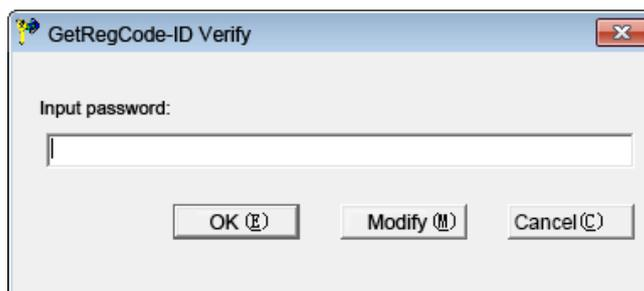
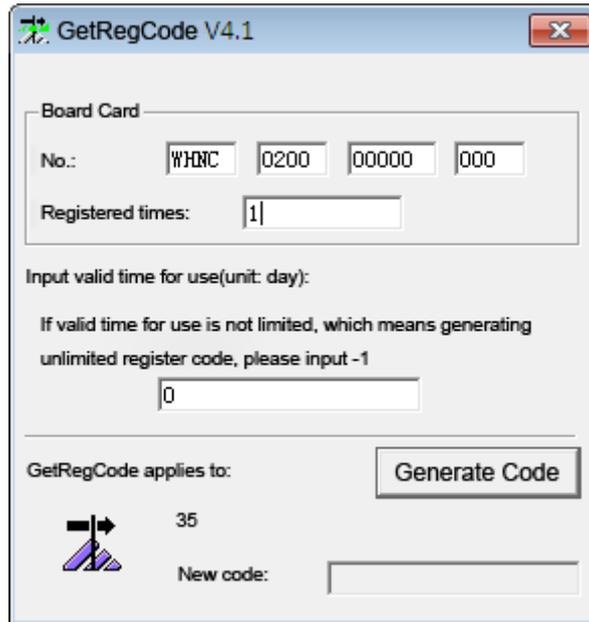

Fig. 3-61 Registration Code Maker-1
Fig. 3-62 Registration Code Maker-2
- 1) Double click the registration code maker “GetRegCode.exe”, and then enter the password “ncstudio” (revisable) in the dialog box as shown in Fig. 3-61. Then press “OK”, input control card serial number and limited service time, and then click “Generate” to generate a new code displayed at the lower part, as shown in Fig. 3-62. If service time is not limited, input “-1” in the “limited time” bar to generate an unlimited code. Service time is registered by days.